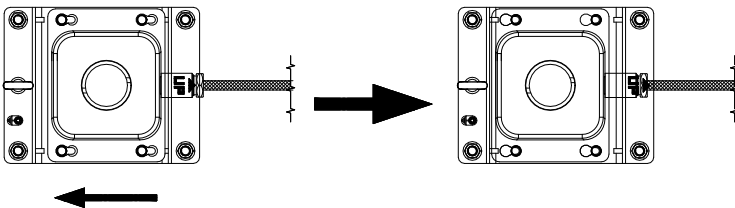

Figure 2-14 Install Bracket to Installation Plate
- 3) Hang the speed dome to the bracket by aligning the holes of bracket with the screws and move the speed dome following the direction in Figure 2-14 to secure the speed dome.